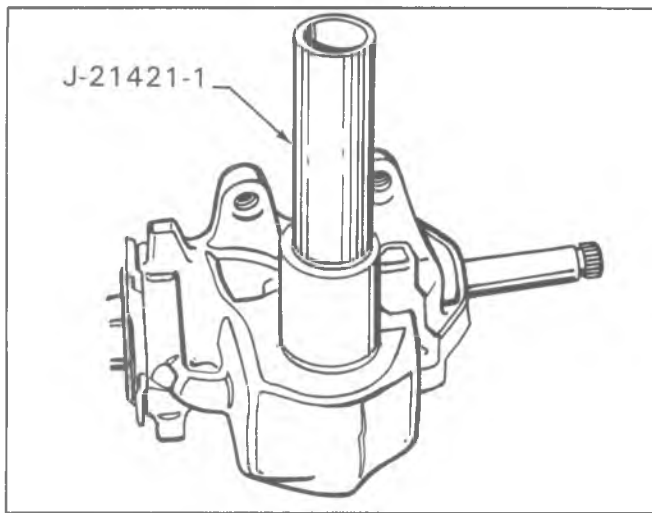

Fig. 3B2-10--Pitman Shaft Seal Replacement
3. Pry the pitman shaft seal from the gear housing using a screwdriver and being careful not to damage the housing bore. See Fig. 3B2-10.